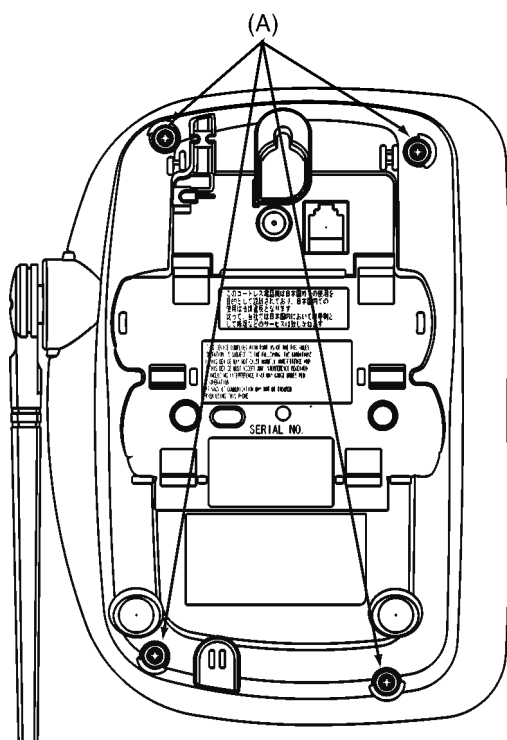

Fig. 1
1. WIPE THE SURFACE OF RF UNIT USING ALCOHOL (IPA). PEEL THE SEPARATOR OFF SMALL P.C.B. AND STICK THE P.C.B. TO THE RF UNIT (Fig. 1).
3. FIX THE LEAD WIRES WITH HIMERON TAPE AND ACETATE TAPE AFTER WIRING AS SHOWN (Fig. 1).